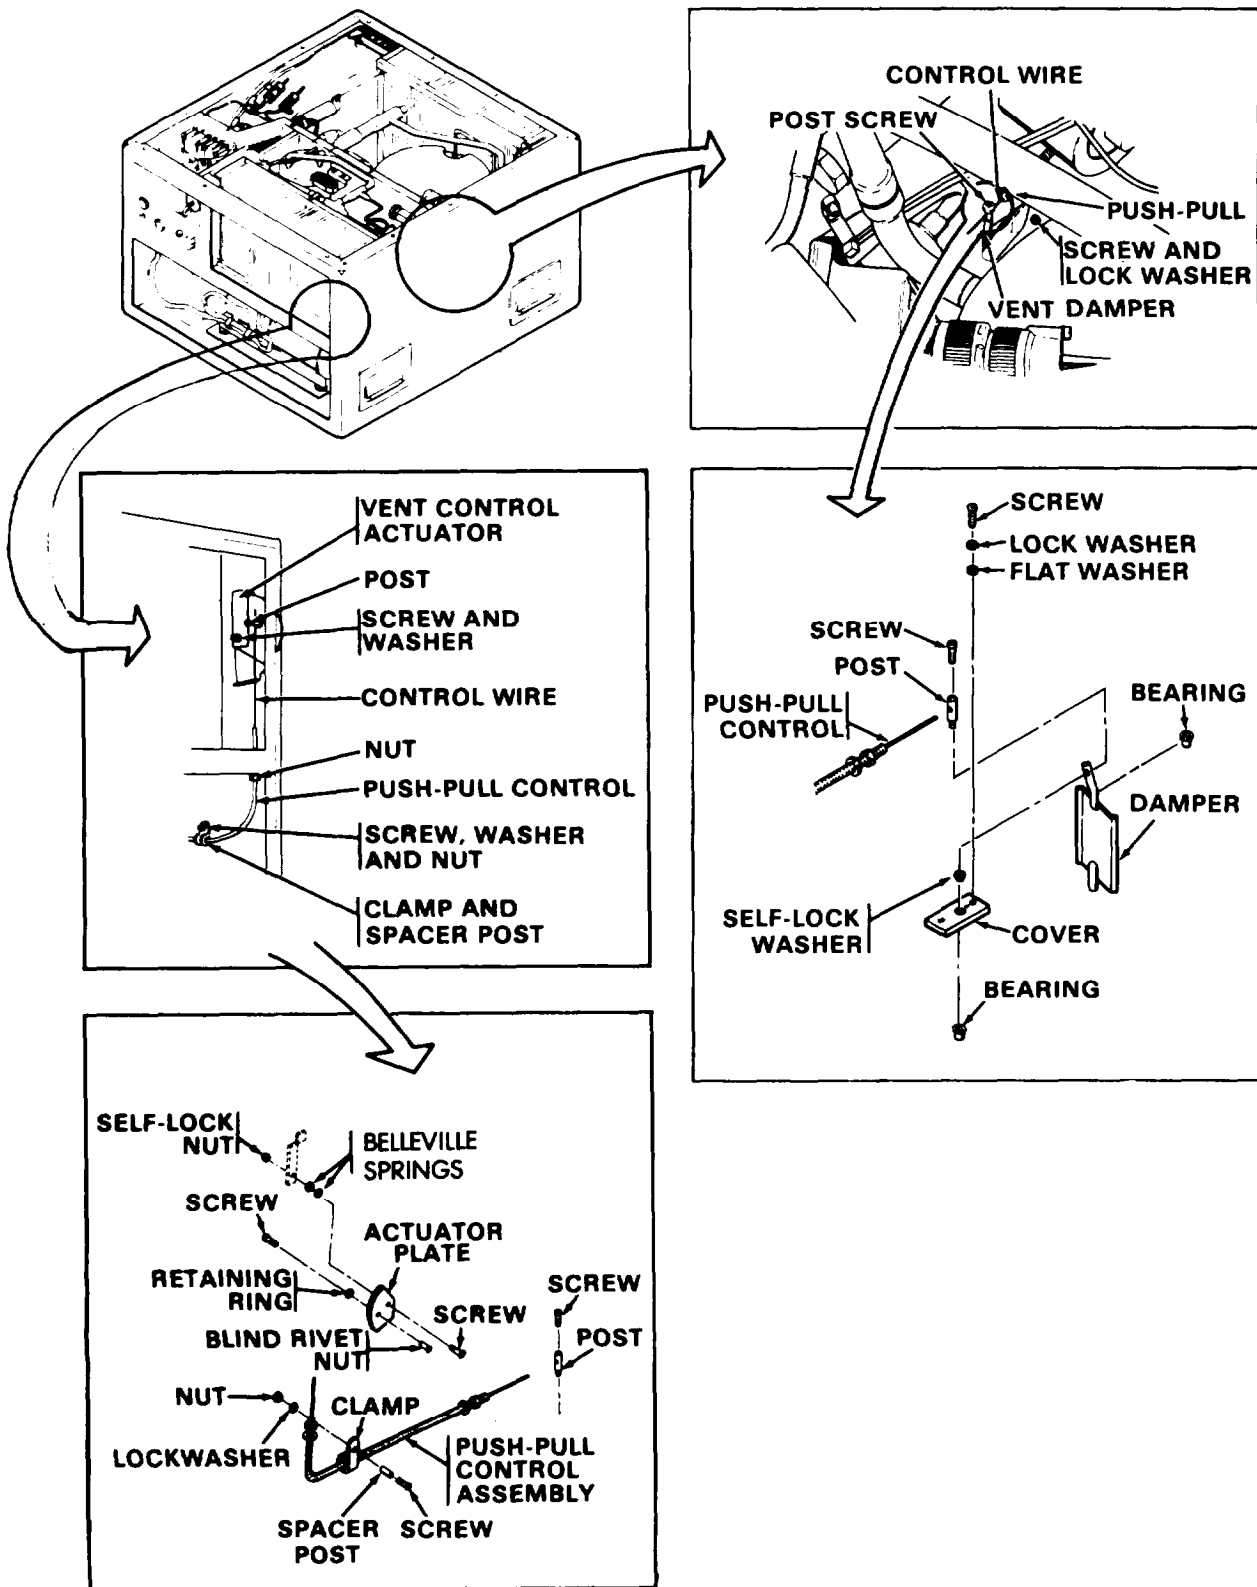

FIGURE 4-8. Vent Damper actuator and actuator knob.
- (1) Refer to paragraph 4-18 and remove top covers.
- (2) Refer to paragraph 4-19 and remove the evaporator air inlet and outlet louver.
- (3) Refer to figure 4-8 and disassemble the vent damper and knob as follows:
- (1) Refer to figure 4-8 and install the vent actuator as follows:
- (2) Adjust the damper actuator as follows:
- (3) Refer to paragraph 4-19 and install the evaporator air inlet and outlet louvers.